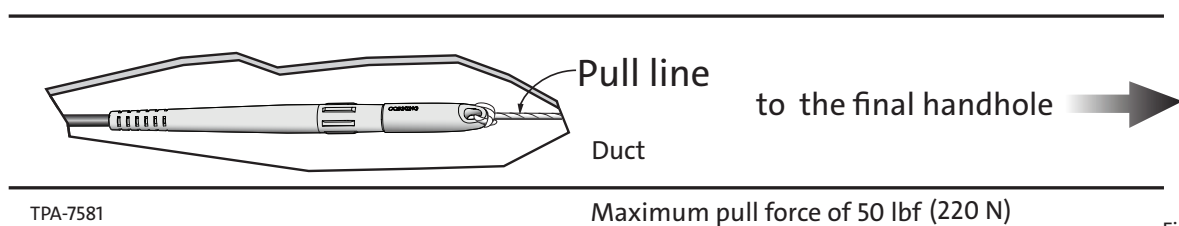

Figure 4
- Step 1:** Pull the trunk through the duct to the final handhole ensuring that you do not exceed 50 lbf (220 N) (Figure 4).